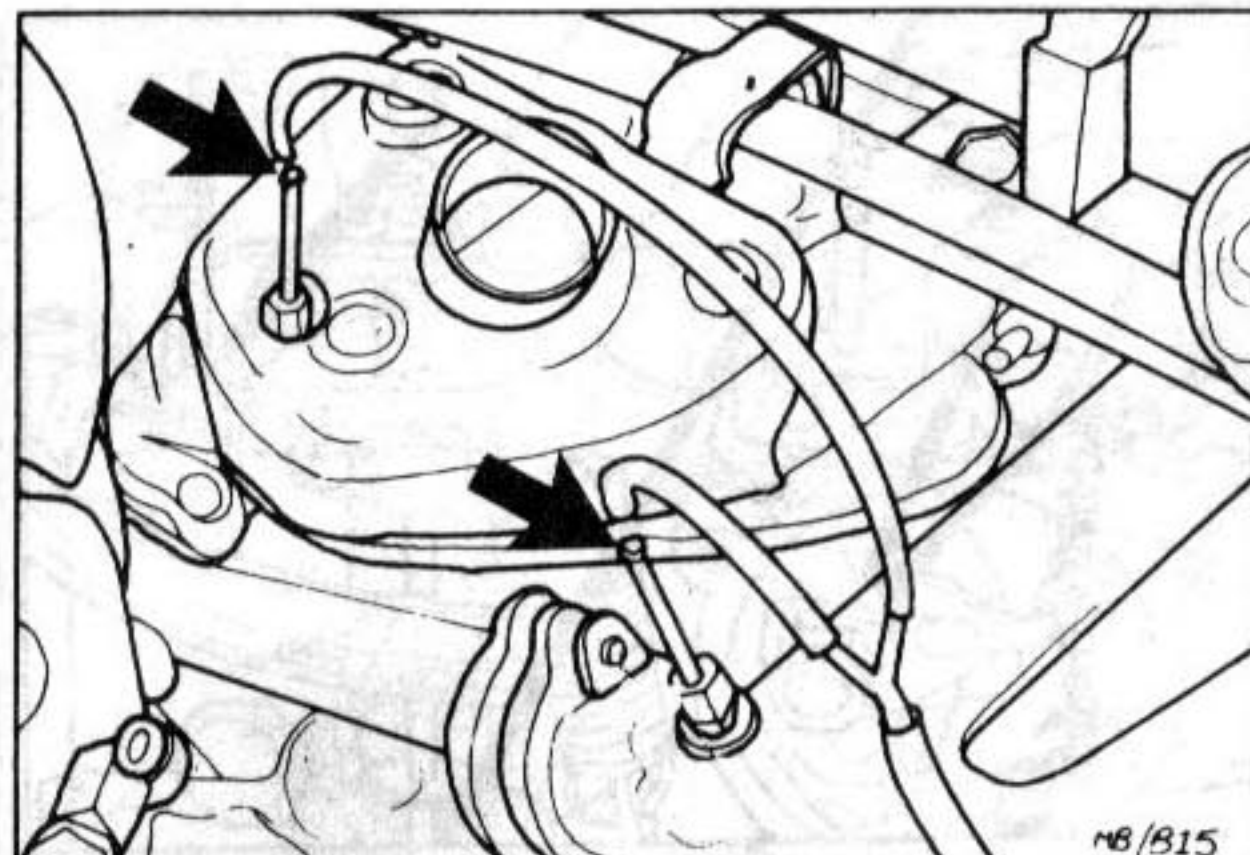

Fig. 2 CO meter connections
- Similarly, check idle CO content level. For this purpose, unscrew closing plugs from two exhaust gas draw-off pipes (arrowed) at exhaust manifolds and connect two exhaust gas measuring lines with Y-piece adaptor to CO meter (Fig. 2).